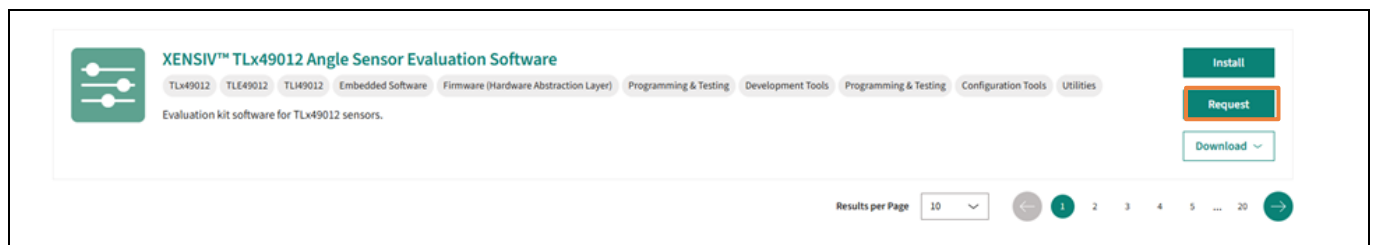

Figure 10 Browse for the tool
- Navigate to the IDC website and “Tools” section. Enter a keyword for the target tool in the search bar (Figure 10)